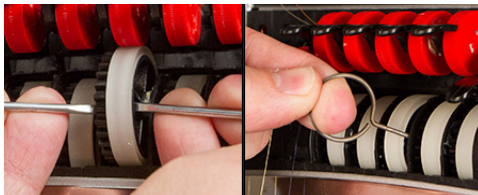

Figure 2 - Prying Thread Feeder Roller Loose
2. Using two thin bladed flat screw drivers or the tool provided in the ops kit, carefully remove the roller from the assembly as shown in Figure 2 above until you can pull it out easily with your finger.